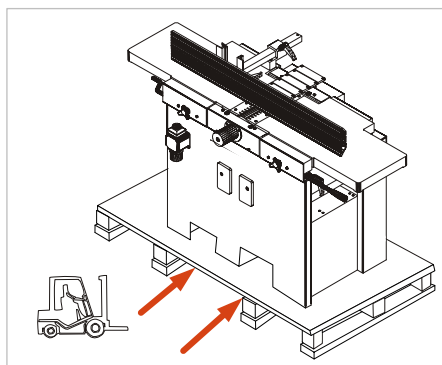

Figure 7: Unloading with a forklift truck
- Move the forks of the forklift truck centrally between the pallet timbers and feed the forks as shown in ⇒ Figure 7.